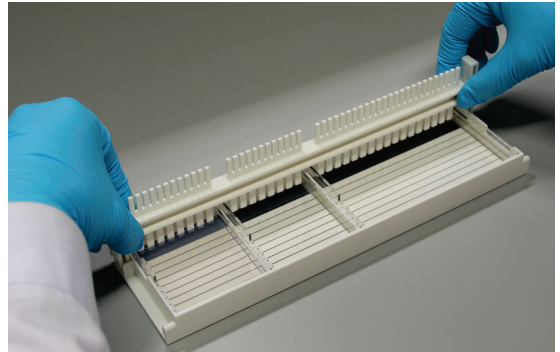

Fig. 8
2. Pull out the comb carefully from the solidified gel, to form wells. Place the gel in an electrophoresis tank (Fig. 8).